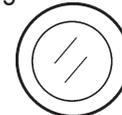

Figure 40. Pre-Heat Button
4. Depending on the temperature of the coolant (cold weather conditions), the pre-heat lamp (Figure 40) will light (ON) and remain on until the pre-heating cycle has been completed. After completion of the pre-heating cycle, the light will go OFF and the engine will start up automatically.